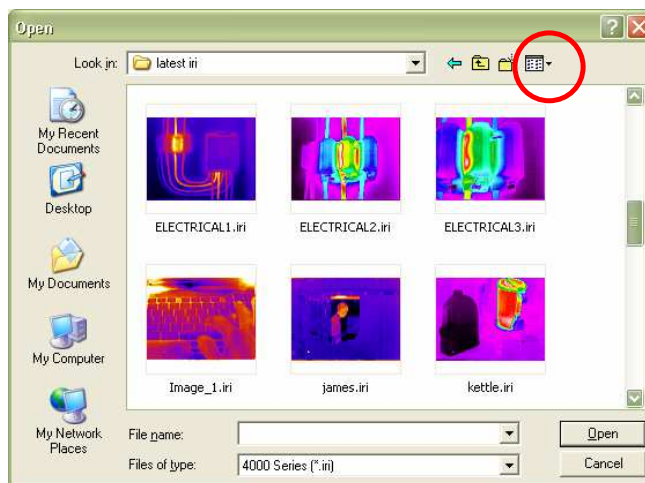

Figure 28: Windows Explorer
1) Open - Uses Windows Explorer (see Figure 28) to open an iri file from your computer.
The iri files can be previewed in any of the five Windows explorer views: thumbnail, tile, icon, list or details, by selecting the “View” button in Windows explorer (shown in Figures 28 and 29).
- 3) Save As... – images are saved using a similar window to the “Open” window in Figure 28, but a file name must be entered.
- 2) Copy to Bitmap – This saves a screen capture of the application window or the thermal image as a bitmap image using a dialogue box similar to Figure 28 above.